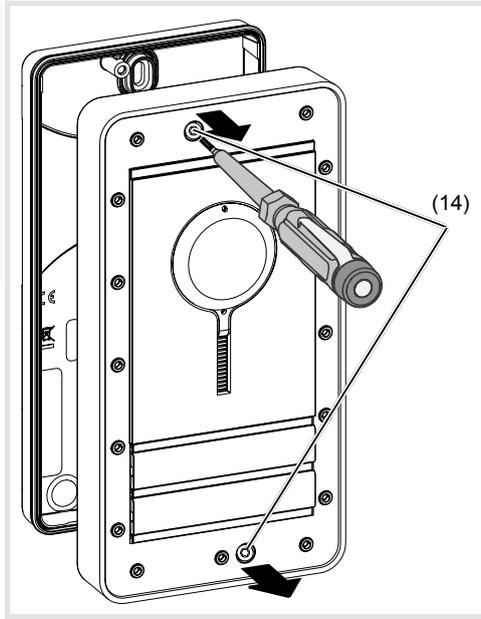

Figure 4: Opening for the first time 1
- Loosen the 2 screws (14) in the door station (figure 4).